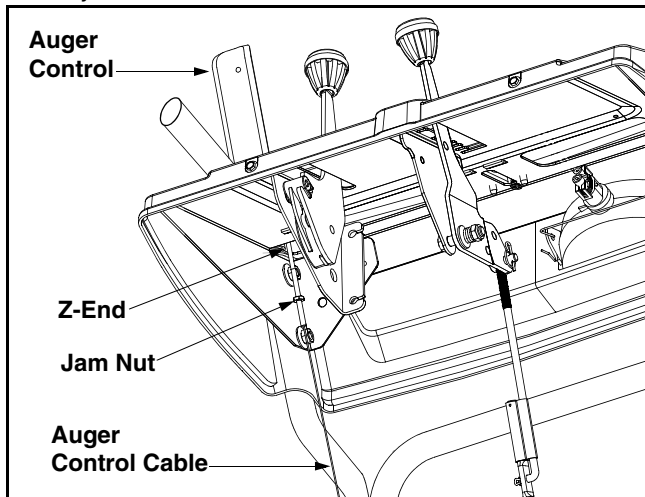

Figure 7
- Retighten the hex jam nut. See Figure 7.